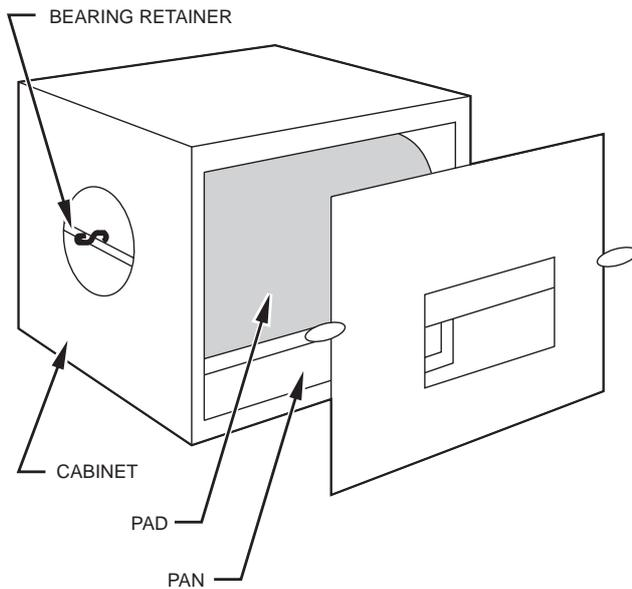

Fig. 9 — Humidifier Details — P110-WTR2019A
- On a P110-WTR2019A humidifier, look through the window on front of the unit to see that the evaporator pad is rotating and water is flowing. (See Fig. 9.)
5. Remove and inspect the evaporator pad assembly. Lift the bearing from its retainer. (See Fig. 9.) Pull the assembly away from the motor to disengage the assembly shaft from the motor coupling. Remove assembly through the access opening.